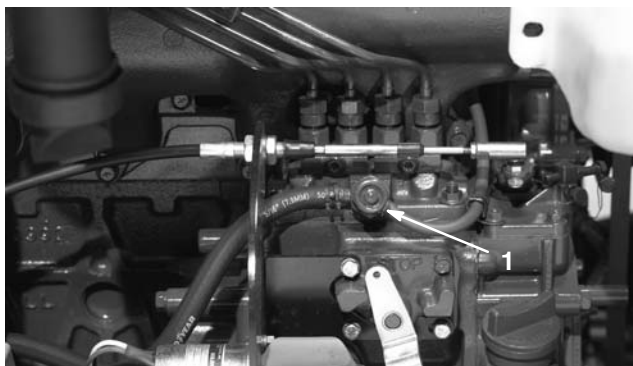

Figure 27
3. Fully open the air bleed screw on the fuel injection pump (Fig. 27).